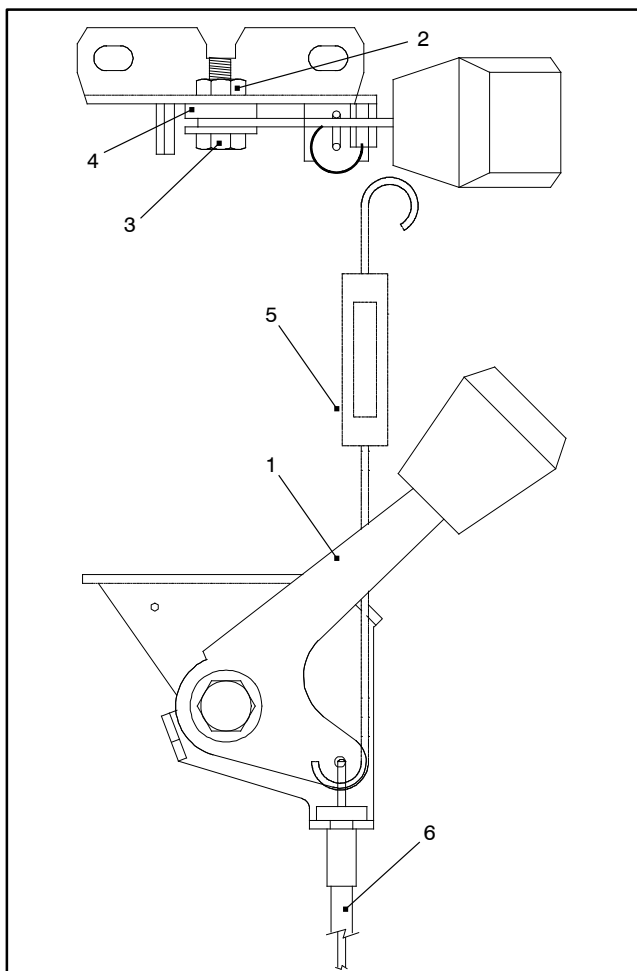

Figure 7
Note: Attach spring scale where the throttle cable is attached to the control lever (Fig. 7).
7. If throttle control lever does not stay in position during operation, torque lock nut and cap screw used to tighten the friction disc from 40 to 55 in-lb (4.5 to 6.2 N-m). The force required to operate the throttle control lever should be 20 lb (89 N). Torque fasteners as necessary (Fig. 7).